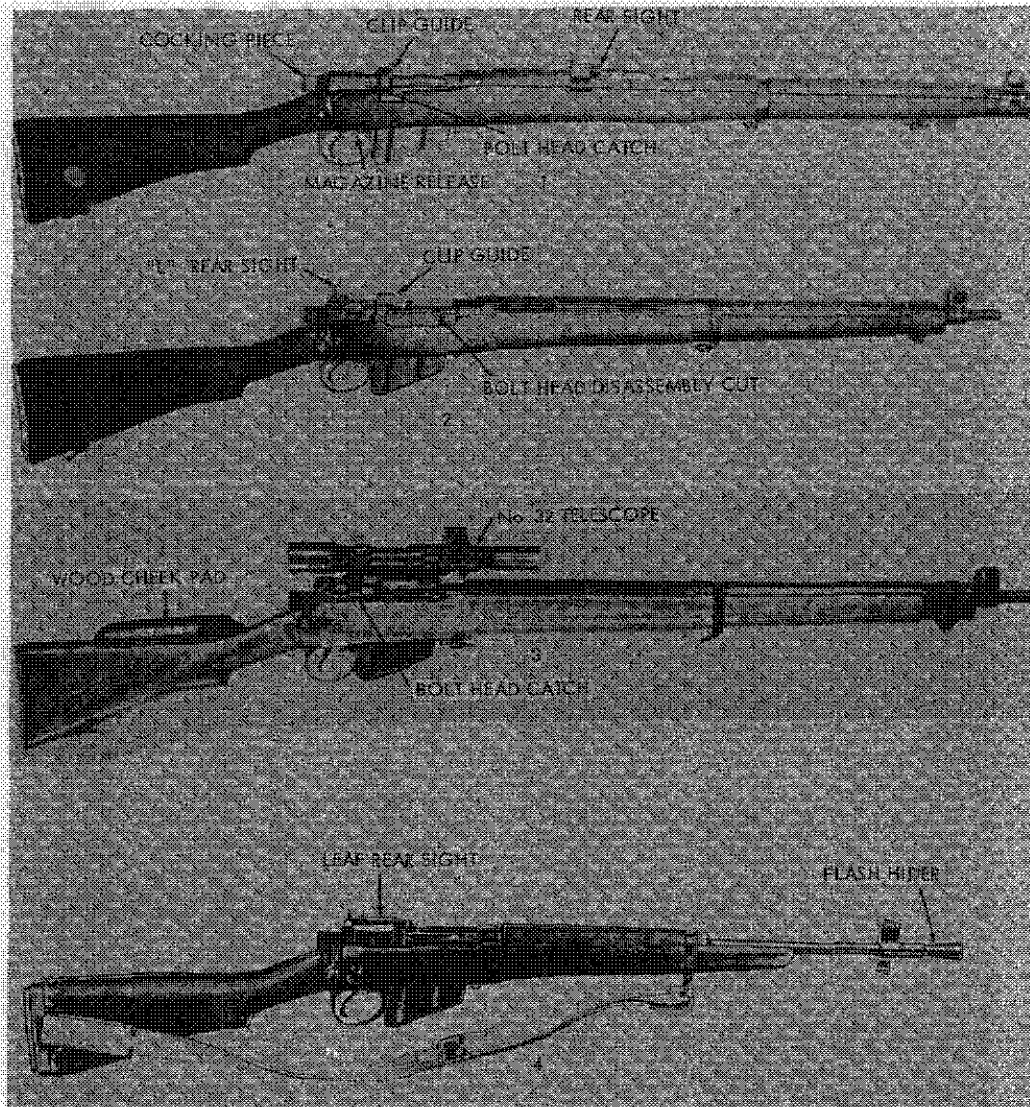

Figure 140. Lee Enfield rifles.
a. The .303-caliber (7.7-mm), manually-operated Lee Enfield rifle has been made in many different models; figure 140 depicts the more common varieties. The prominent magazine is a prime recognition feature for all Lee Enfields, and the older No. 1 rifle (fig 140) can be recognized by its snub-nosed muzzle. A sniper version of the No. 4 equipped with a telescope (fig 140) was issued, and a lightened version with a shortened forestock, the No. 5 (fig 140), was designed for jungle warfare. The various models of
(1) If clipped ammunition is available, insert the clip into the clip guides (fig 140), and with the thumb as close as possible to the clip, press the cartridges into the magazine. Remove the clip and repeat this action with a second clip so that 10 rounds are loaded into the magazine. When loading loose cartridges into empty clips, insure that the rims of the cartridges in the middle and on the ends are below the rims of the other two cartridges.
(2) Loose cartridges can be individually pressed into the magazine to insure that the rim of each cartridge is in front of the rim of the round that preceded it.
(3) Individual cartridges can be directly inserted into the chamber.
d. If the rifle is not to be fired immediately, render it safe by rotating the safety at the left rear of the receiver fully to the rear. This locks the firing pin and bolt. An alternate method is to grasp the cocking piece (fig 140) firmly, pull it to the rear, and after pressing the trigger, ease the cocking piece forward. Release the trigger and bring the cocking piece to rest at the half cock position. This procedure is not recommended.
(1) If the rifle is a No. 1, press the slide locks on the rear sight (fig 140), and move the slide along the leaf until the index mark on the slide lines up with the number on the leaf that corresponds with the range in hundreds of yards. Final fire adjustments can be made by rotating the worm screw on the slide.
(2) If the rifle is an early No. 4 with an L rear sight (fig 140), flip the sight to the desired range (300 or 600 yards). The 300-yard aperture is used for firing at 400 yards if the bayonet is attached.
(3) If the rifle is a No. 4 with an adjustable rear sight or a No. 5 carbine (fig 140), lift the leaf and move the slide along it until the index mark is aligned with the number denoting the range in hundreds of yards. The slide is moved either by pressing a catch on the slide or by turning an adjusting screw at the top of the slide, depending on the model of the sight. The fixed large battle aperture can be used when the sight is folded down; this is set for about a 300-yard range. By aiming at a man's chest with this sight, a hit should be scored on some part of his body at any range up to 300 yards. The sniper rifles do not have the battle aperture.
(4) The No. 32 telescope is used on the No. 4 Mark 1T; with minor changes, it is also used on the L42 sniper's rifle. The telescope is set for range and deflection by rotating its knobs, and the elevation knob at top is marked to indicate hundreds of yards.
g. To unload or clear the rifle, press the magazine release (fig 140) and remove the magazine. Open the bolt and catch any ejected cartridge. Push any remaining cartridges forward, out of the magazine, and insert the empty magazine into the rifle, striking it with the heel of the hand to insure that it is fully seated. Close the bolt and press the trigger.
(a) If it is a No. 1 rifle, open the bolt and draw it fully to the rear; then press up on the bolt head until it is released by the bolt head catch (fig 140) and the head is vertical. This requires considerable force. Pull the bolt rearward out of the receiver.
(b) If it is a No. 4 Mark 1\*, MK1/3 or L37, open the bolt and draw it slightly to the rear until the bolt head is aligned with the disassembly cut in the receiver (fig 140). Turn the bolt head up and, after lifting the rear sight to its vertical position, pull the bolt out of the receiver.
(fig 140), and pull the bolt fully rearward (holding the catch depressed). Turn the bolt head to a vertical position and, after lifting the rear sight, pull the bolt to the rear out of the rifle.
b. To reassemble the rifle, insure that the bolt head is screwed into the bolt as far as possible; then back it off until it is in line with the guide rib of the bolt. Insert the bolt into the receiver; the rear sight leaf of the No. 4 and No. 5 rifles must be vertical. When the bolt head is just forward of the shoulder, turn the head down. If the rifle is a No. 4 Mk1\*, MK1/3, or L37 press the bolt forward until the bolt head is aligned with the cut (fig 140) in the receiver; seat the bolt head into this cut and close the bolt. For all other rifles, as soon as the bolt head clears the shoulder, press it down, against the spring catch, until the bolt can be pushed forward. Reinsert the magazine (para 188g).